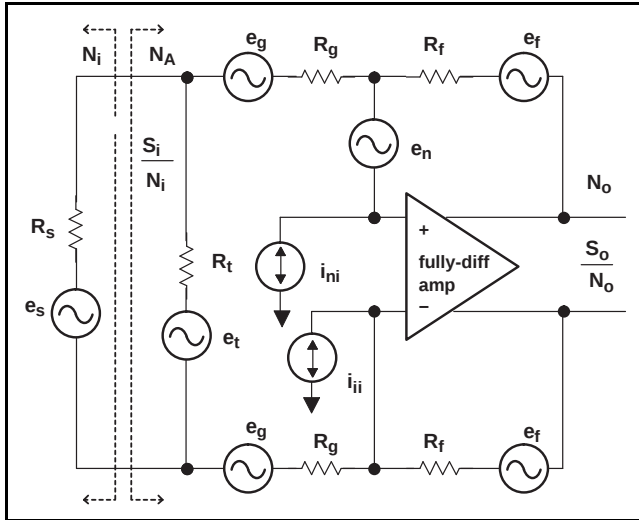

Figure 112. Noise Sources in a Fully Differential Amplifier Circuit
Noise analysis in fully differential amplifiers is analogous to noise analysis in single-ended amplifiers; the same concepts apply. Figure 112 shows a generic circuit diagram consisting of a voltage source, a termination resistor, two gain setting resistors, two feedback resistors, and a fully differential amplifier is shown, including all the relevant noise sources. From this circuit, the noise factor (F) and noise figure (NF) are calculated. The figures indicate the appropriate scaling factor for each of the noise sources in two different cases. The first case includes the termination resistor, and the second, simplified case assumes that the voltage source is properly terminated by the gain-setting resistors. With these scaling factors, the amplifier input noise power (N_A) can be calculated by summing each individual noise source with its scaling factor. The noise delivered to the amplifier by the source (N_s) and input noise power are used to calculate the noise factor and noise figure as shown in Equation 23 through Equation 27.